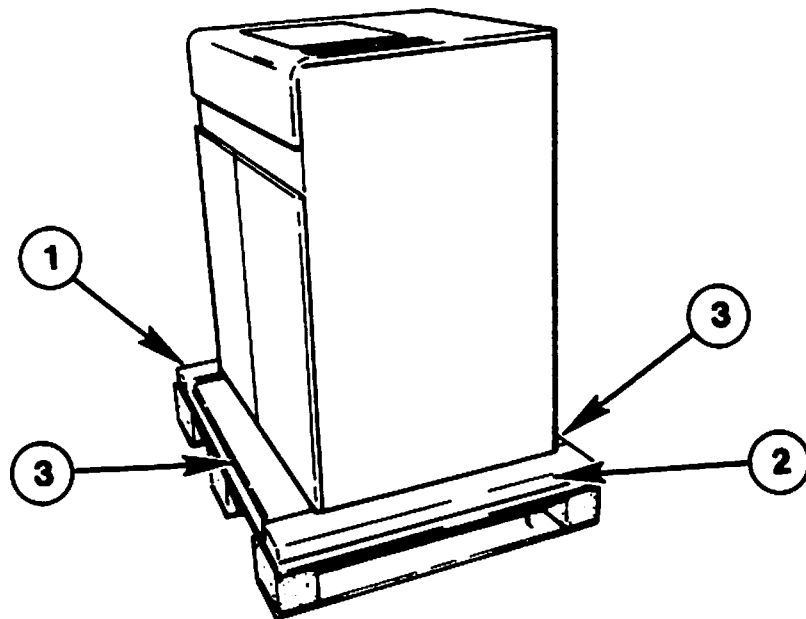

FIGURE 1
4. Remove bolts securing the two plywood ramps (item(s) 3, Figure 1) to the pallet, and remove the plywood ramps. Retain bolts, to be used in the next step.